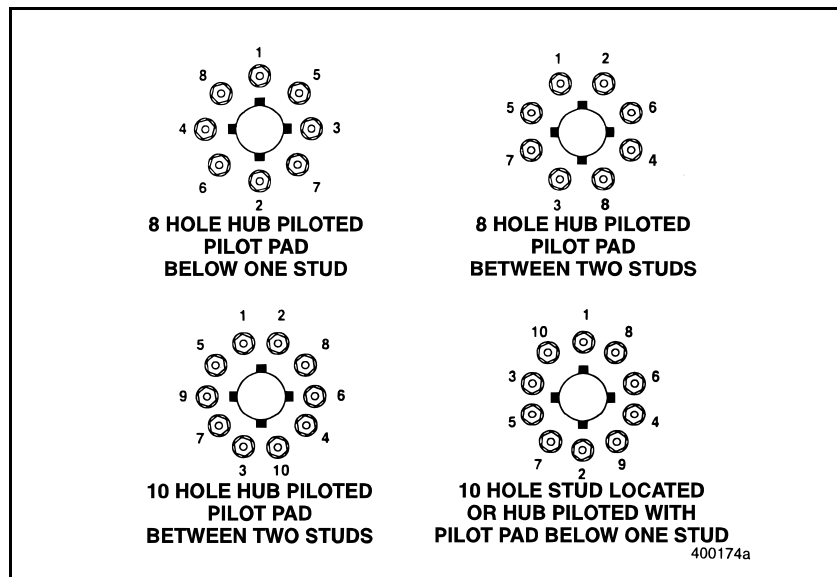

Figure 76 — Disc Wheels with Stud Piloted Ball Seat Tightening Sequence
**Dual Disc Wheels (Stud Piloted Ball Seat)** — Loosen outer wheel nuts first, then tighten the inner nuts in sequence shown (Figure 76) to the specified torque value given in table on page 222. After inner nuts are tightened, tighten outer wheel nuts, in sequence, to the specified torque value.